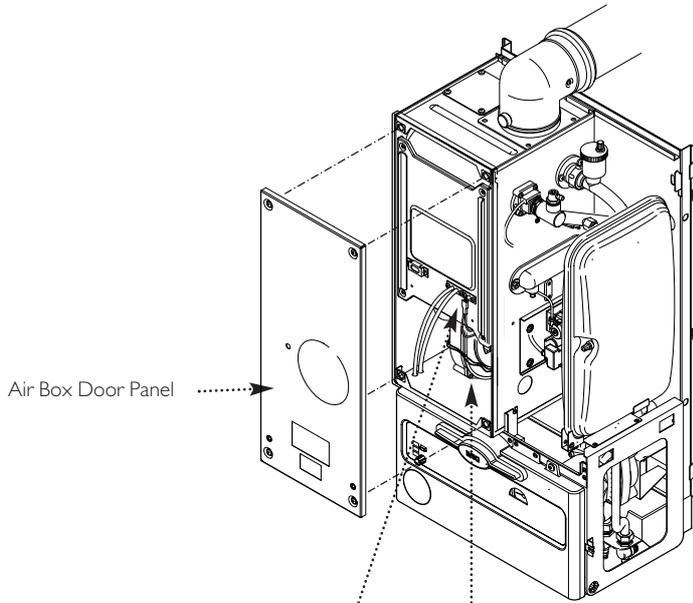

Fig. 58
13.13 Spark and Sensing Electrodes (Fig. 58)